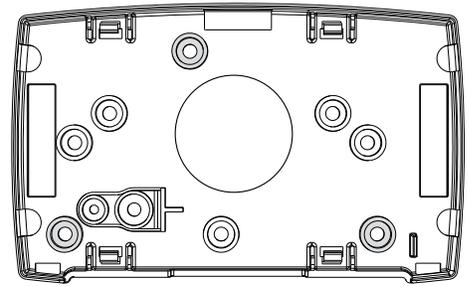

Figure 5: Mounting Hole Locations
2. Use the included screws in the desired mounting hole locations to attach the remote module to the surface. See the shaded mounting hole locations in Figure 5.